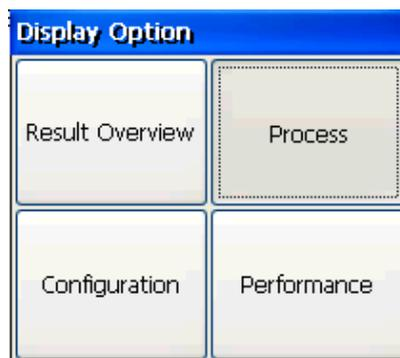

Figure 5.10.16 Y.1564--Display
**[Display]:** To show the test results and processing information, as is shown in figure 5.10.16.